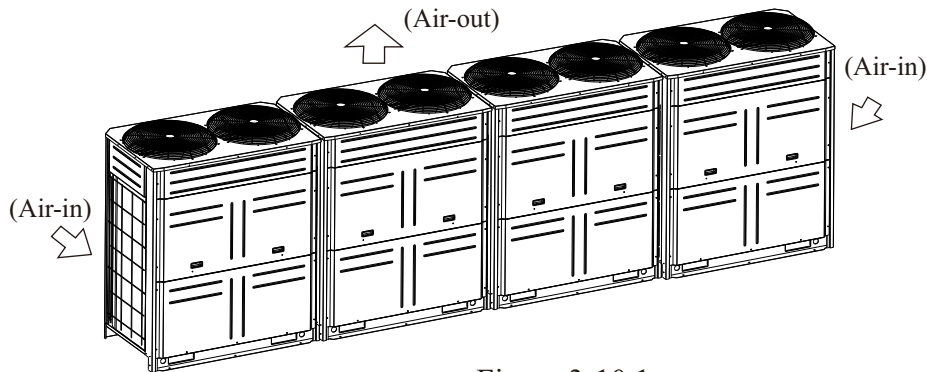

Figure 3-10.1
- 1) Please ensure necessary installation and overhaul space and place the modules in the same system at the positions of same height. (Refer to Figure 3-10.1).